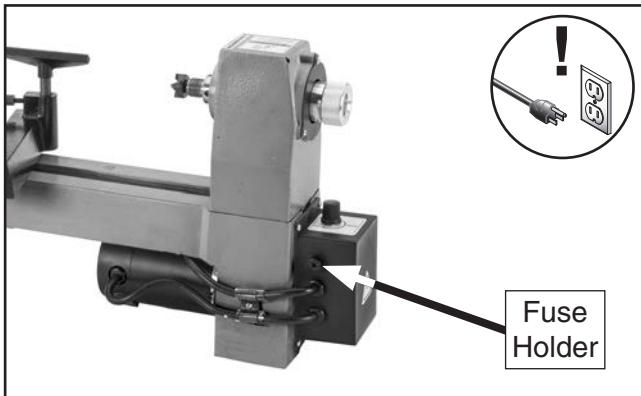

Figure 45. Location of fuse holder.
2. Remove fuse holder on back of switch box (see **Figure 45**).